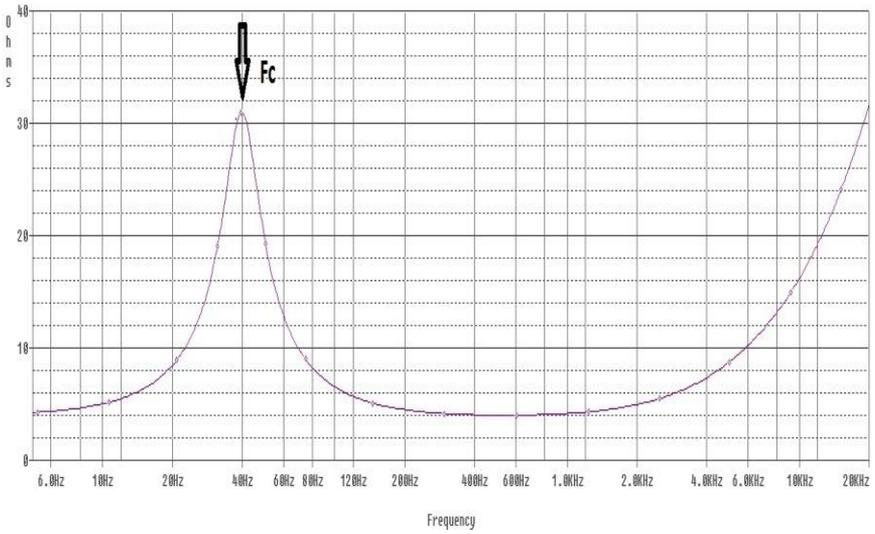

Figure 3, f_c of a single 4 ohm, 15 inch subwoofer in a 2 cubic feet sealed box.
5. After the unit is operating, turn the frequency down as far as it goes. Then slowly raise the frequency until the peak in impedance is found. If you go too far and pass the peak, just back down the frequency until the peak in impedance is found. Figure 3 shows the f_c of the same 15 inch woofer we tested in the *Finding the f_s of a Raw Speaker Driver* section, but now in a 2 cubic foot sealed box. We measured the f_c to be 40 Hz.